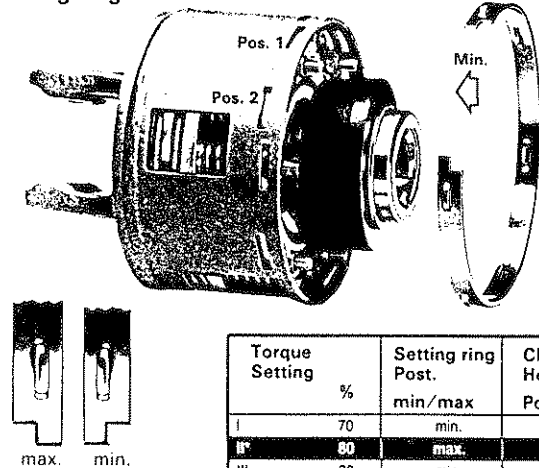

Fig. 61
The power take off friction clutch mounted at the front of the mechanical drive unit may require occasional adjustment. The clutch is factory adjusted to torque level II, see Fig. 61. If the clutch is slipping under normal operating conditions and the friction disks are in serviceable condition, reposition the clutch setting ring to the torque setting III position. If the clutch disks are contaminated with grease etc., or are severely worn, replace the disks.
3. Tighten the nuts to relieve spring pressure on the ring. Remove the ring. Reposition the ring to affect the proper torque setting required, see table, Fig. 61. Back off the nuts to the end of the studs. The unit is now assembled for the torque value shown.